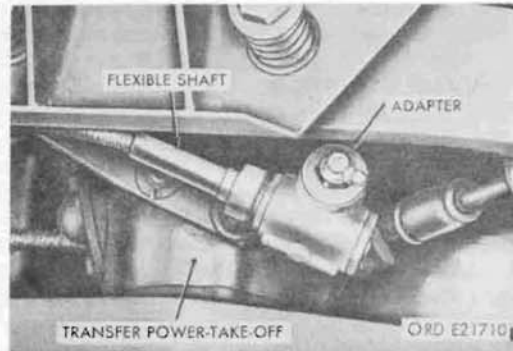

Figure 275. Auxiliary governor angle drive adapter
b. Auxiliary Governor Flexible Shaft (Fig. 275).
- (1) Removal. Unscrew auxiliary governor flexible shaft from auxiliary governor angle drive adapter on transfer power takeoff and from auxiliary governor drive unit below air cleaner in engine compartment. Remove shaft assembly from vehicle.
- (2) Flexible shaft core replacement. Remove flexible shaft core from shaft casing. Install new core in casing.
- (3) Installation. Install shaft in vehicle with square end of core at transfer power takeoff. Connect shaft to drive adapter and to governor drive unit.
c. Governor Valve Adapter (Fig. 275).
- (1) Removal. Disconnect governor flexible shaft and disconnect flexible shaft from angle drive adapter on power takeoff. Remove adapter and adapter drive gear.
- (2) Installation. Insert angle drive adapter and gear into opening on the power takeoff, and tighten securely. Connect governor flexible shaft to angle drive adapter.